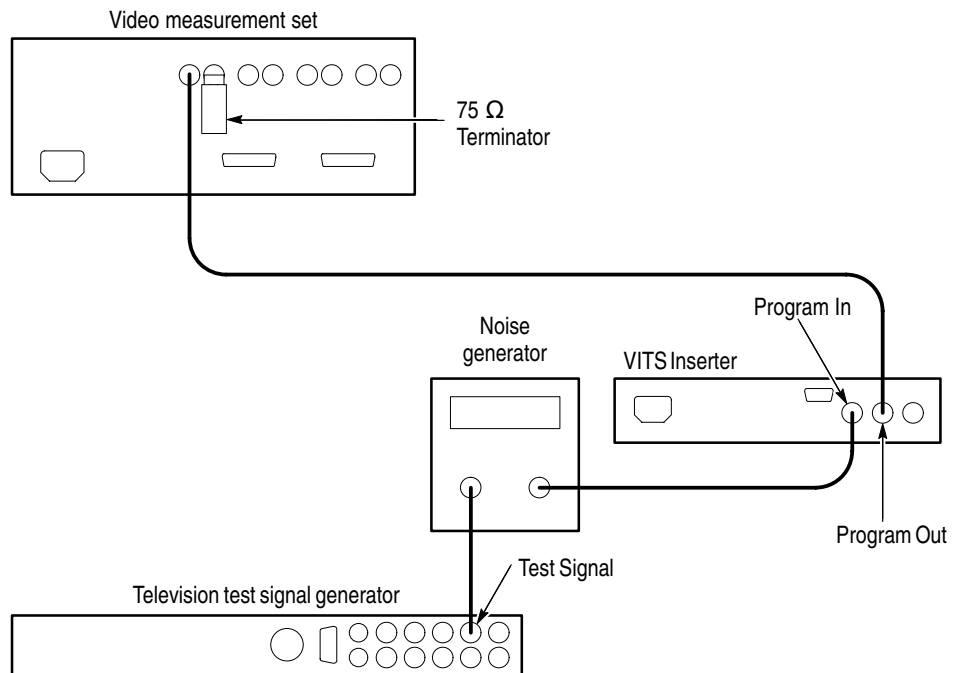

Figure 5–8: Measuring hum rejection
1. Connect a 75 Ω coaxial cable from the television test signal generator to the video noise generator Video Input. See Figure 5–8.
5. Connect a 75 Ω coaxial cable from the VITS inserter PROGRAM OUT to the video measurement set Ch A. Terminate the remaining side of the loop-through input with a 75 Ω terminator. See Figure 5–8.
1. Connect a 75 Ω coaxial cable from the television test signal generator Test Signal output to the VITS inserter PROGRAM IN. See Figure 5–2.
2. Connect a 75 Ω coaxial cable from the VITS inserter PROGRAM OUT to the waveform/vector monitor Ch A Input. Terminate the remaining side of the loop-through input with a 75 Ω terminator. See Figure 5–2 on page 5–6.